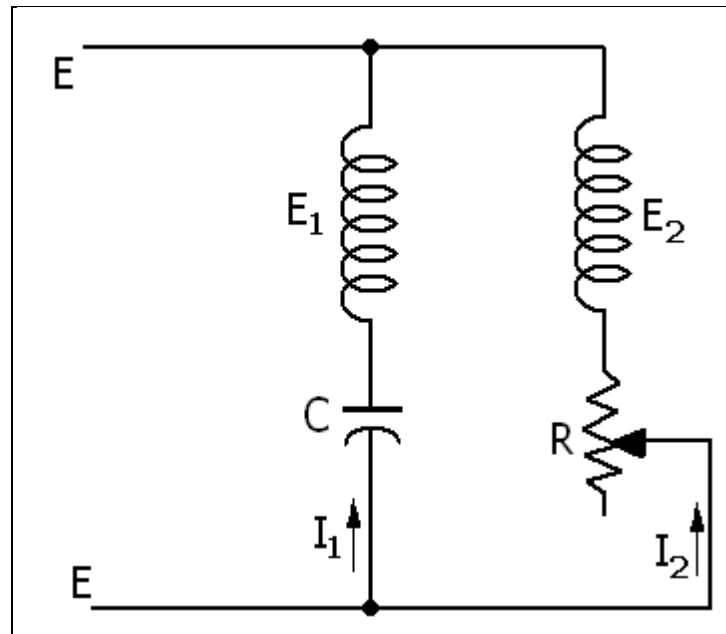

Fig. 1.5-8
9. The function of resistor R in Fig. 1.5-8 is to:
For the under frequency relay AC circuit shown in Fig. 1.5-8, answer the following questions: